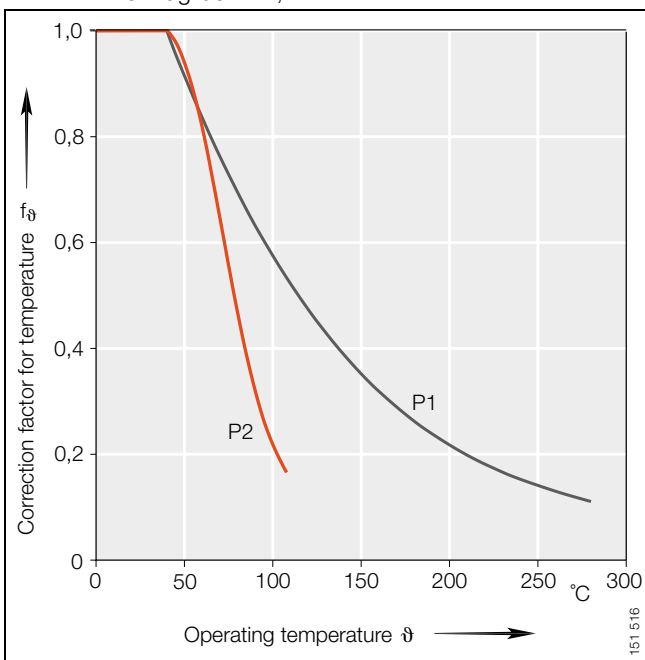

Figure 6 · Correction factor for temperature f_θ ,
Correction factor for temperature, Figure 6, page 15
- Correction factor for temperature f_θ , Figure 6, page 15